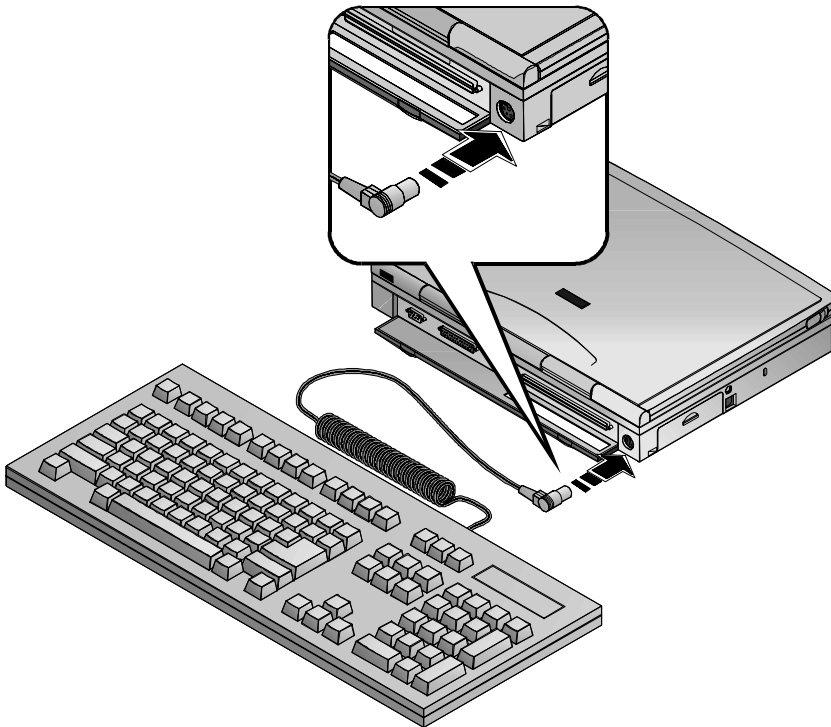

Figure 4-4: Connecting an External Keyboard
2. Connect the keyboard to the notebook's PS/2 port. (Figure 4-4)